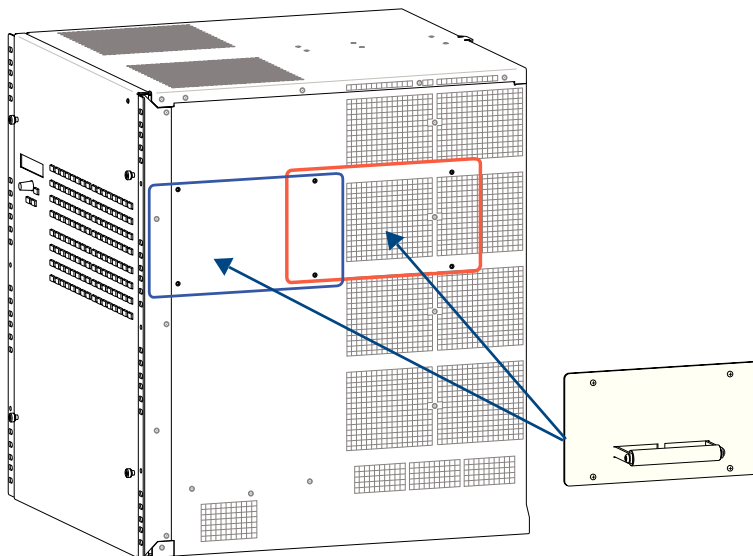

FIG. 16 Handle position options
6. Attach the two handles provided for lifting, using either the front or rear position as indicated in FIG. 16 (be sure to tighten down all four screws securely).